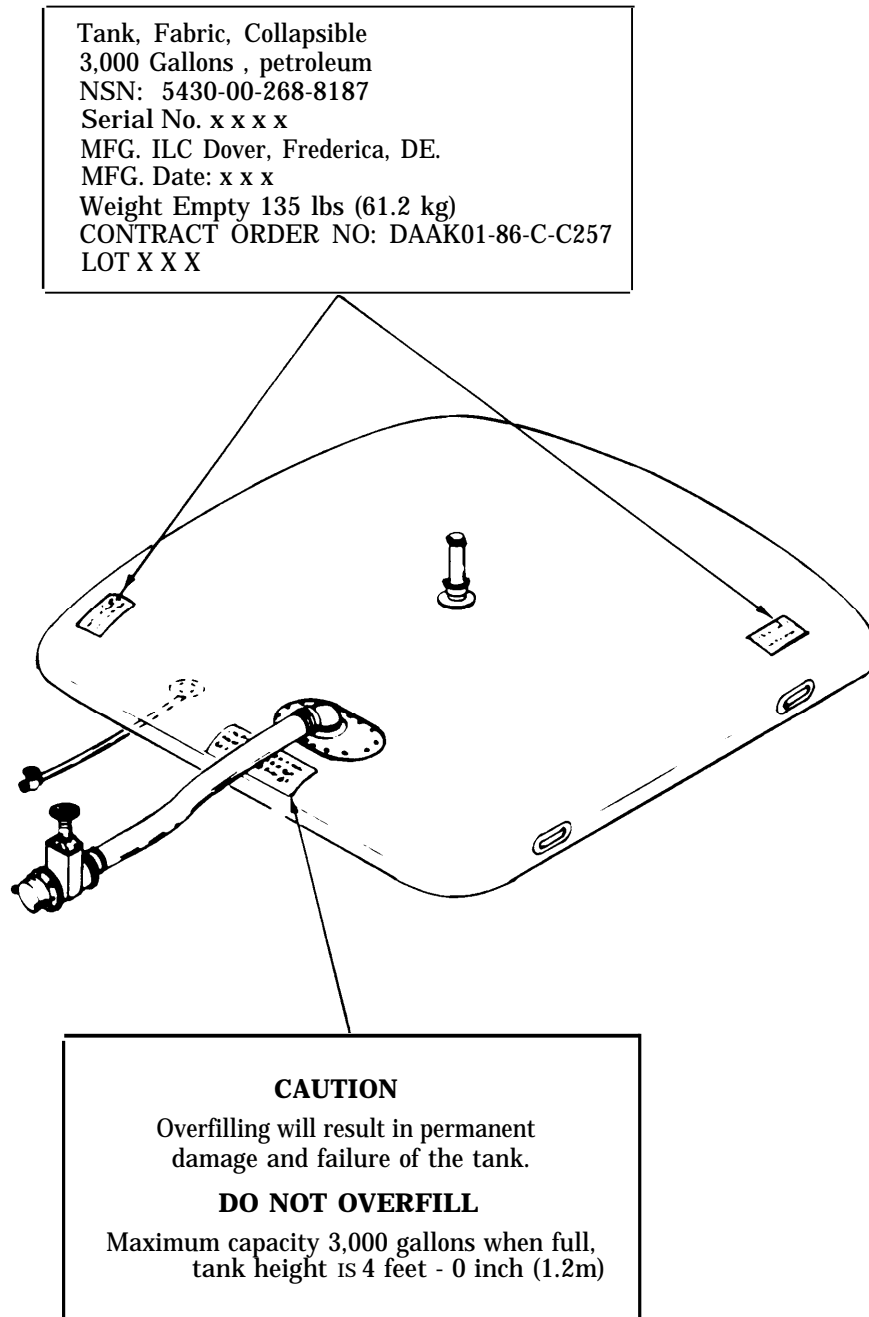

Figure 2-9. Operating Decals and Instructions
f. Operating Decals and Instructions. Operator cautions and instructions are located on the tank as shown in Figure 2-9.
(1) Tank Envelope: